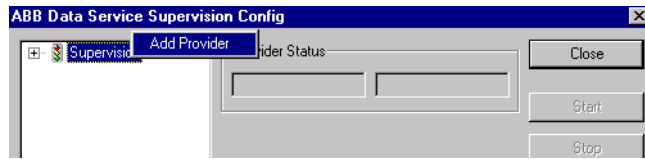

Figure 406. Adding a Data Provider
2. Use the browser to right-click on any item (for instance Supervision), and choose **Add Server** from the context menu, Figure 406.